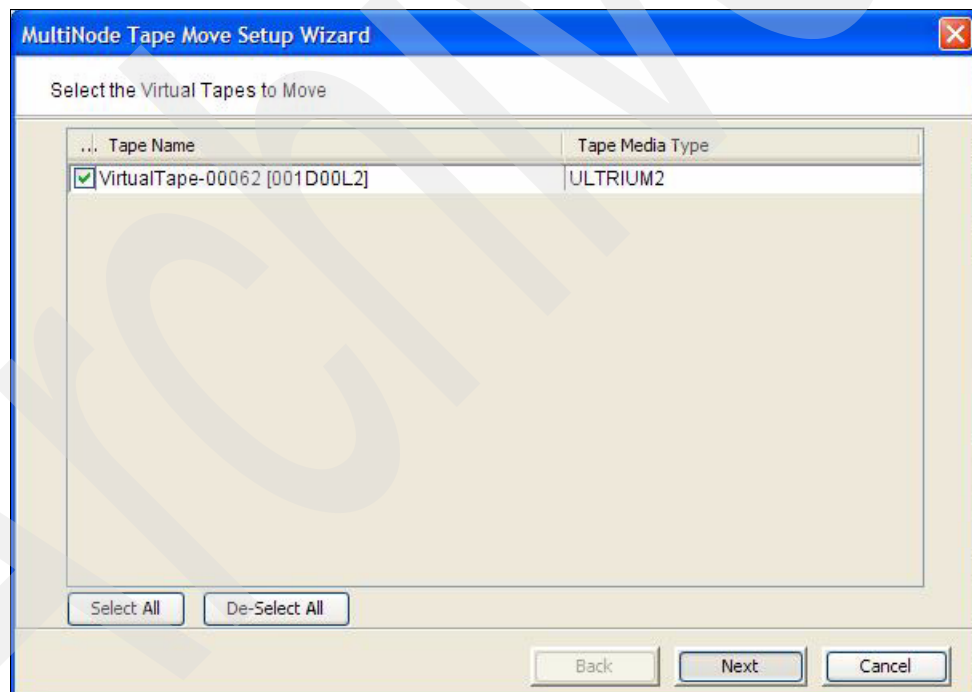

Figure 12-35 Virtual tape selection
3. You then get a window like the one shown in Figure 12-35 to verify the tapes you want to move back to the source node. After verifying the selection, click **Next**.